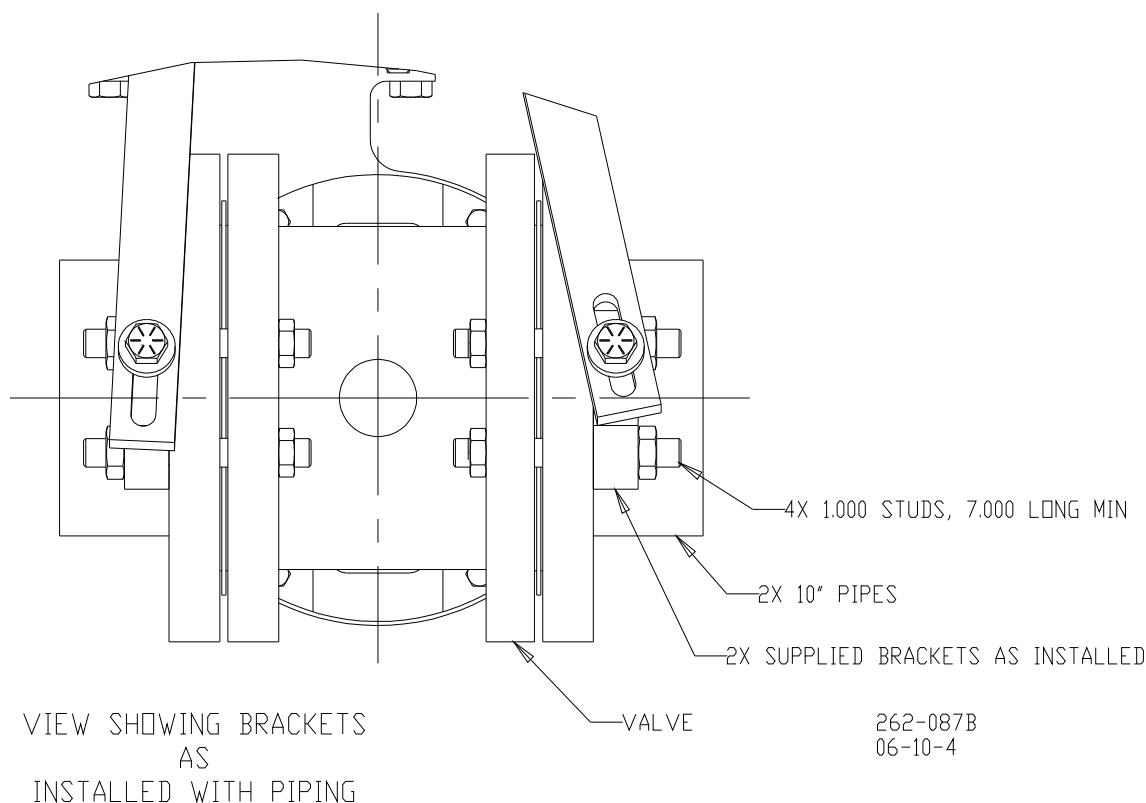

Figure 4-1. Close-up of Strut Brackets on Pipe Flanges
5. Position the lower strut brackets outboard of the process pipe flanges as shown in Figure 4-1.